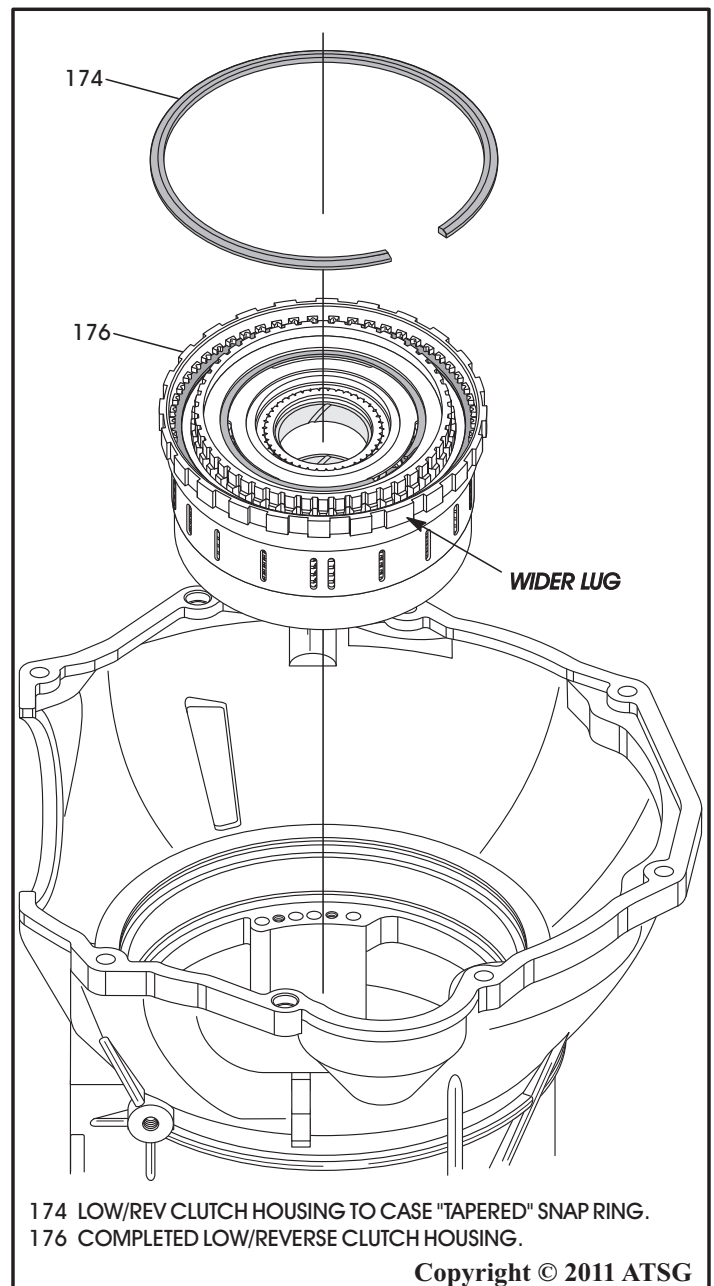

Figure 140
9. Install the completed low/reverse clutch housing, as shown in Figure 140.
**Note: The low/reverse clutch housing has one lug that is wider than the rest to orient it in the case with the feed hole toward the valve body. The wider lug is at the 12-O-clock position in the transmission case (See Figure 140).**
10. Install the low/reverse clutch housing tapered snap ring into the case just above the housing, with the taper facing up, and ensure that it is fully seated (See Figure 140).